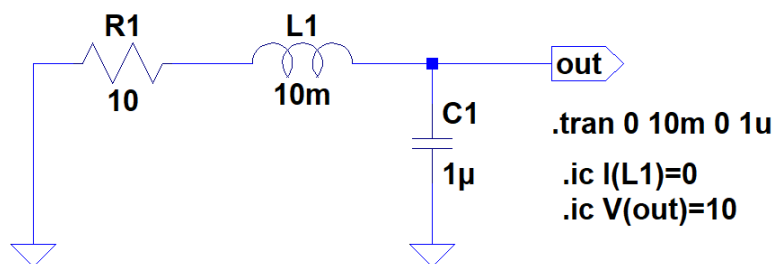

Fig. 3. Discharge of a capacitor in an RLC circuit.
- Modify the circuit according to Figure 3 illustrating capacitor discharge in the RLC system.